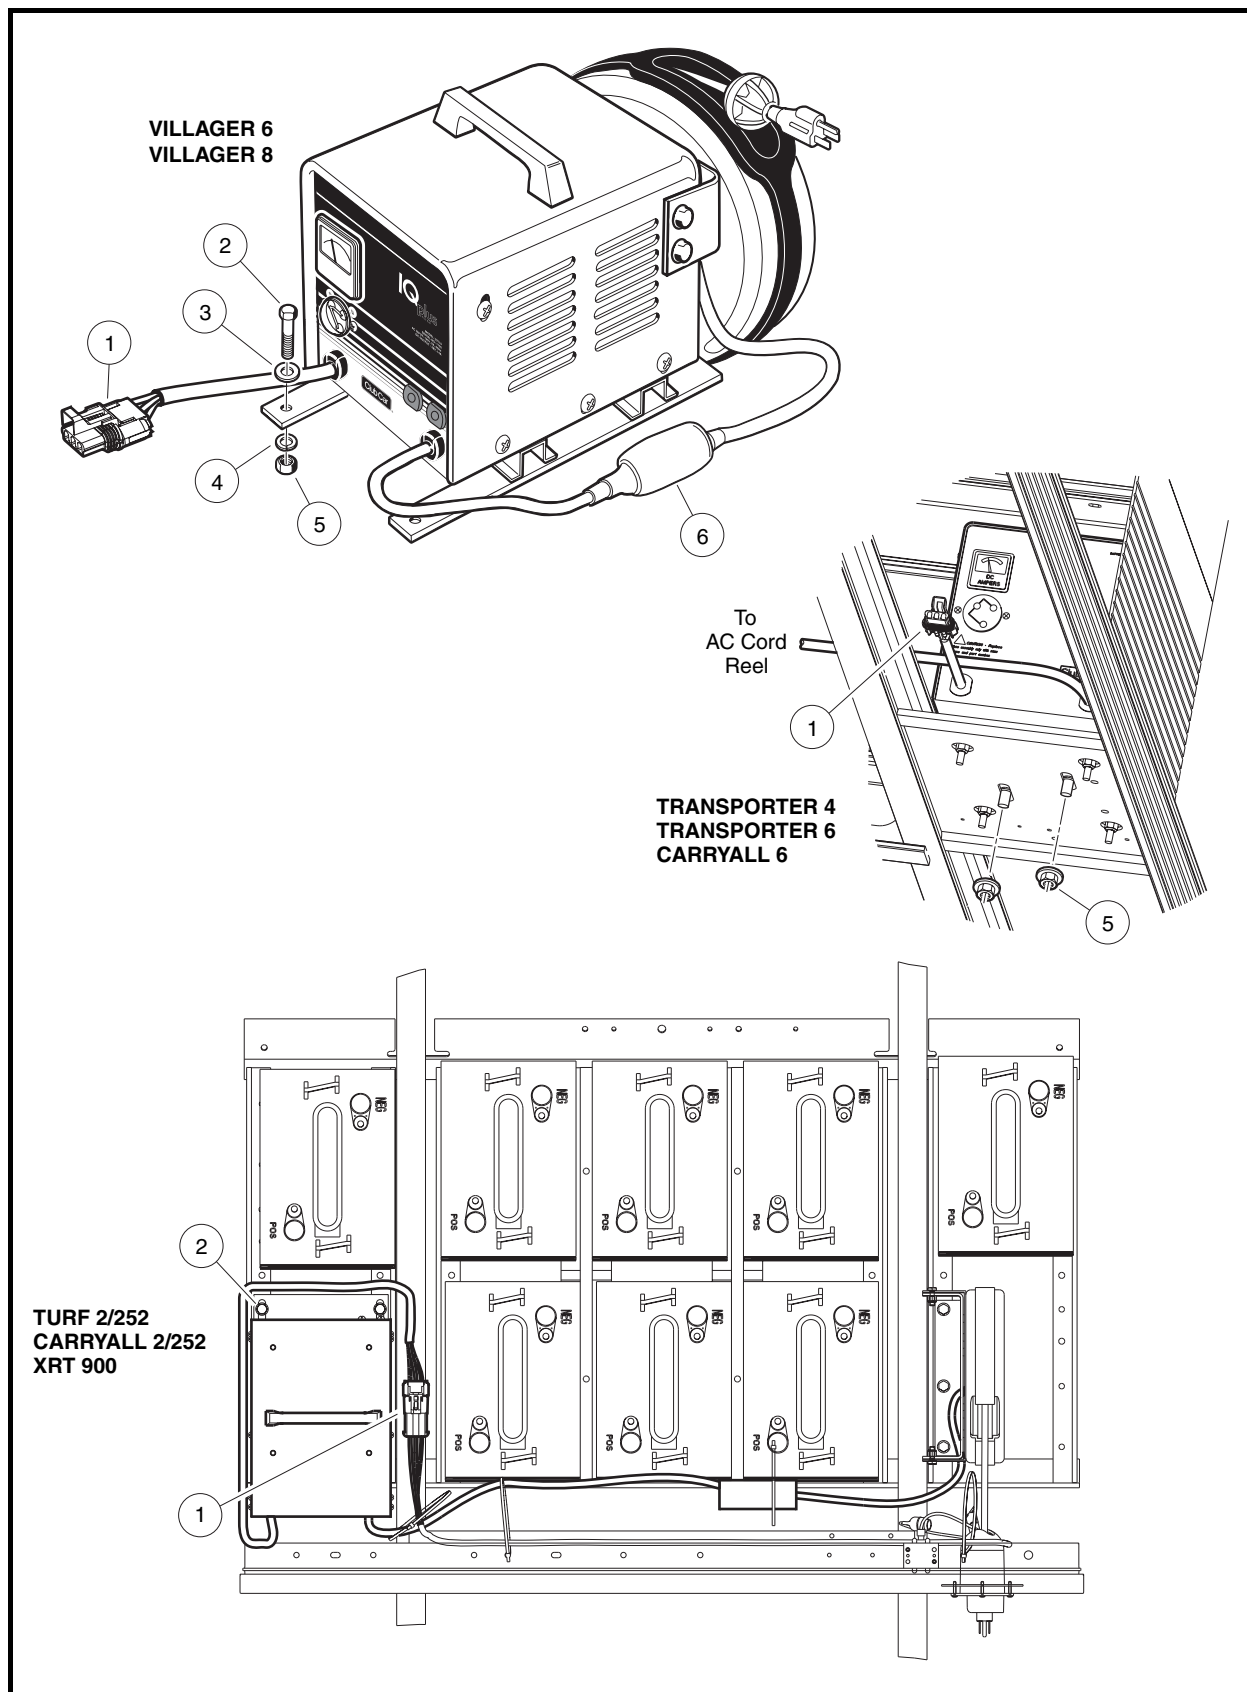

Figure 6-23 Onboard Charger Mounting Details
2. Disconnect the charger DC cord at the three pin connector (1) (Figure 6-23, Page 6-35).
- 2.3. **Carryall 6 and Transporter 4 and 6:** Tighten two nuts (5) to 108 in-lb (12 N·m).
3. **For Carryall 2/252 and 6, Turf 2/252, XRT 900 and Transporter 4 and 6 vehicles:** Place new heatshrink tubing (6) (CCI P/N 1017189) over the short AC cord and connect the short AC cord to the retractable cord reel (Figure 6-23, Page 6-35). Slide the tubing over the connection and carefully apply heat to shrink it.